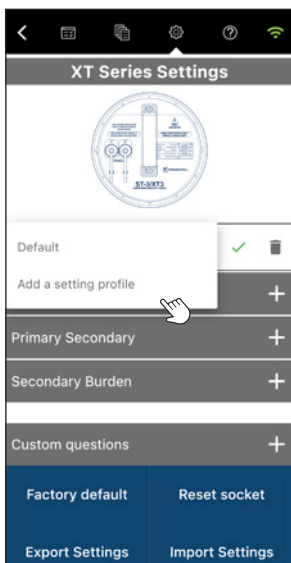

Figure 1
- Add a setting profile:** Click the drop-down menu and select "Add a setting profile", input a relevant name and click **Done**, the profile will be created with all the current field value (Figure 1).